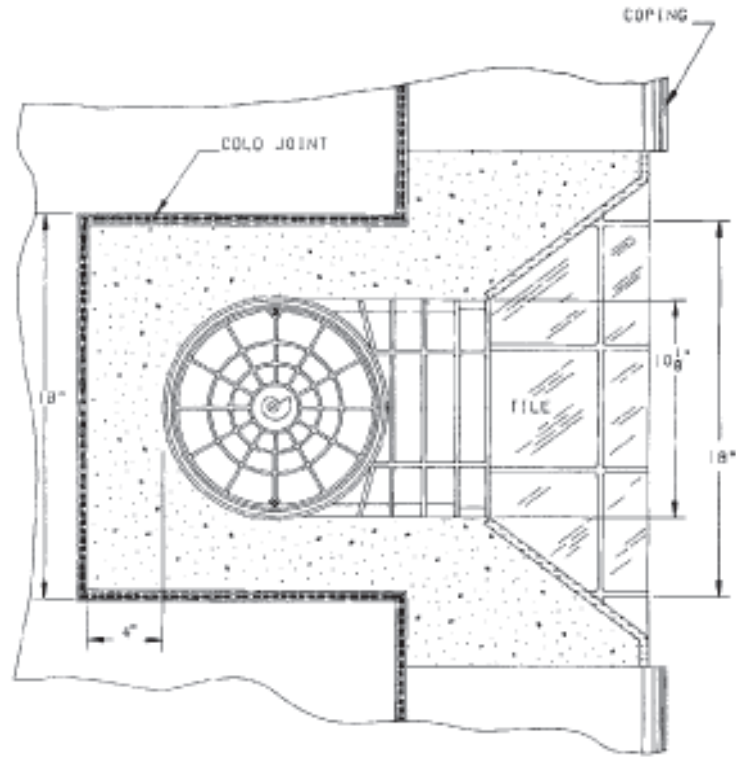

Figure 1: Top View
NOTICE: Skimmer MUST be surrounded by at least 4" of structural concrete in a monolithic pour, using a cold joint as shown in installation drawings (Figure 1).
6. Structural gunite/concrete should be applied in a monolithic pour, in conjunction with a cold joint as shown in Figure 1.